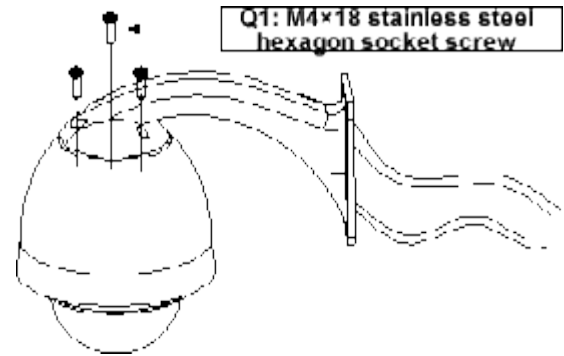

Figure 12
v. Tighten M4×18 screws as Figure 12.